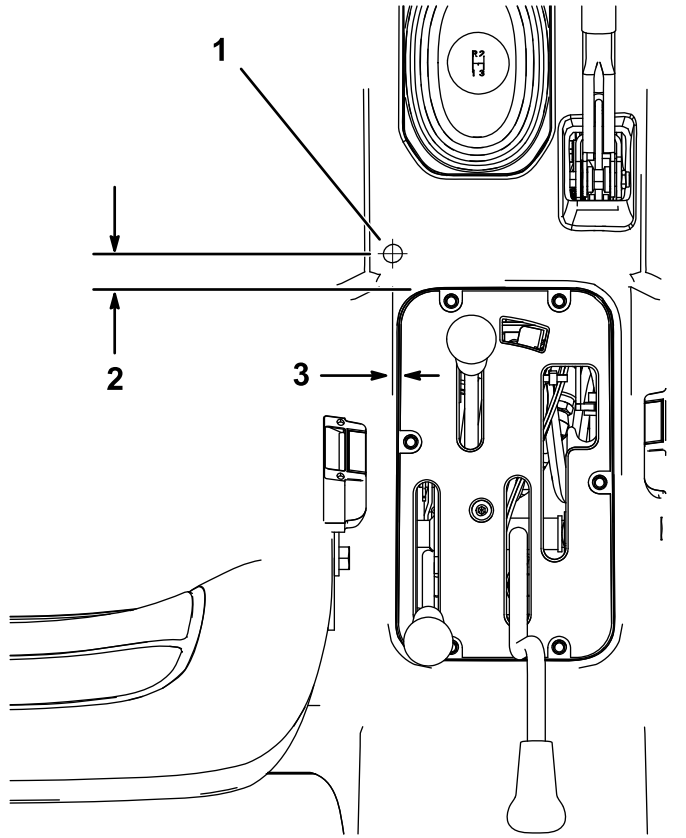

Figure 14
- Drill a hole near the control panel according to the dimensions shown in (Figure 14).